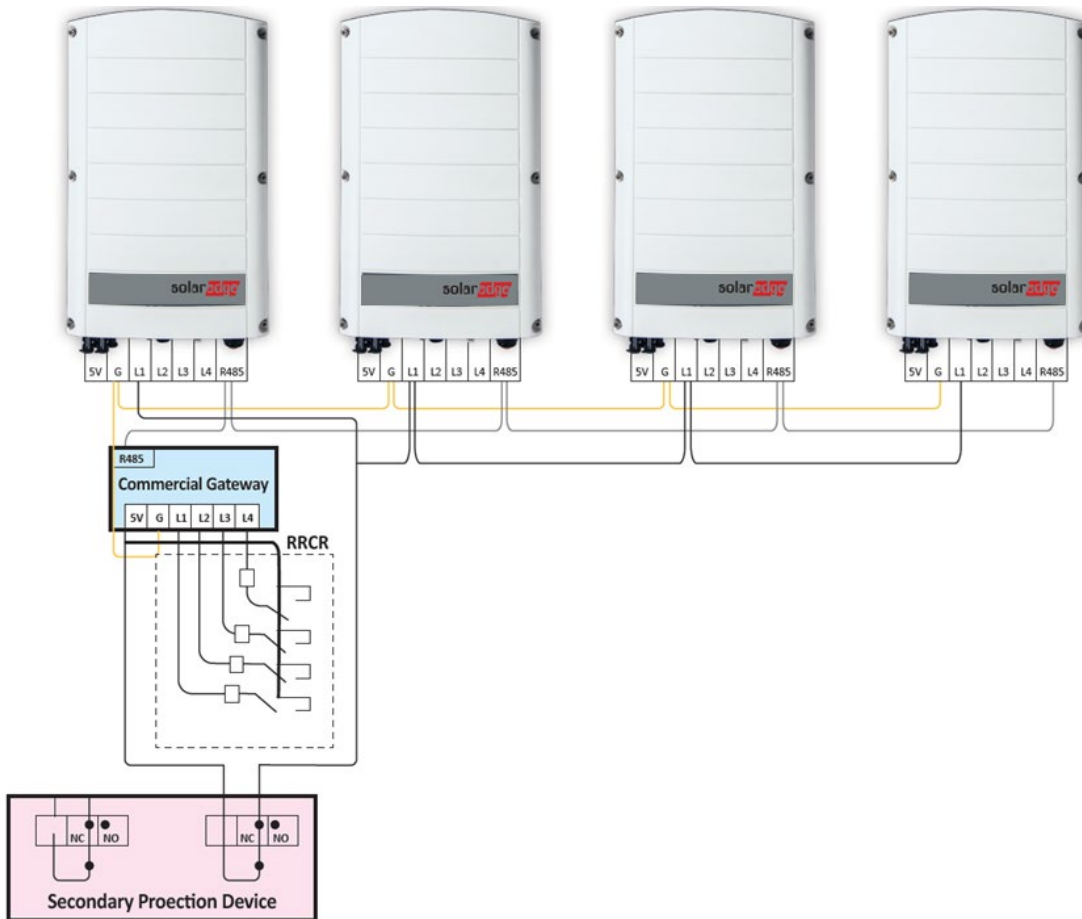

Figure 5: Multiple Inverter System, with RRCR and Commercial Gateway
- **Version 1.3, September 2018** – added missing Ground connection from inverter to Commercial Gateway in figure 5 and changed CCG to Commercial Gateway.
To control the inverter relays the secondary protection device is connected to the inverter’s Power Reduction Interface (PRI) connector located on the inverter communication board. In an installation with a Commercial Gateway (Commercial Gateway .) the device should be connected to the Commercial Gateway’s PRI connector as shown in Figure 5: Multiple inverter system, with RRCR and Commercial Gateway .